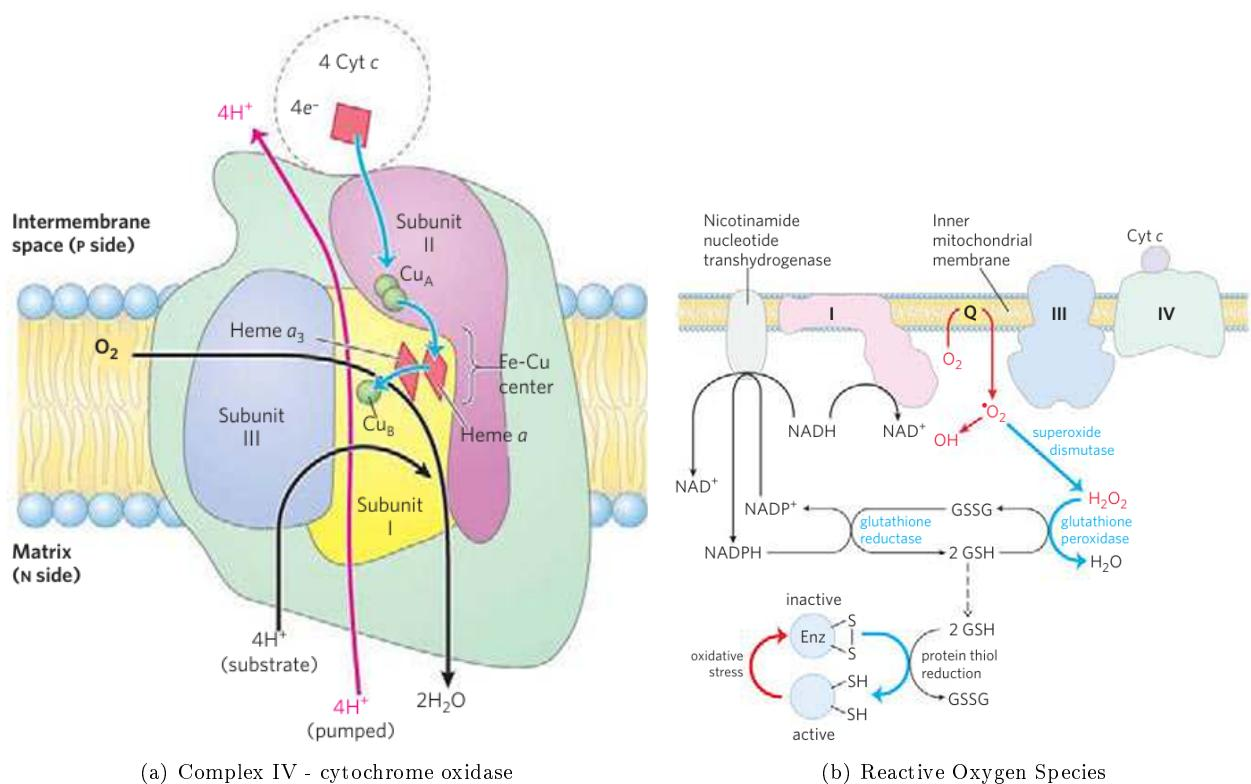

Figure 41: Complex IV and ROS
**Remark 1.23 (Reactive Oxygen Species (ROS)).** ROS are chemically reactive species containing oxygen. ROS are produced in a variety of biochemical reactions / organelles such as peroxisomes, **mitochondria**, etc. In the ETC about 0.1-2% of electrons are **prematurely transferred to oxygen**. Specific enzymes in our mitochondria are used to detoxify **superoxide radicals**, be converting them to **hydrogen peroxide** and then to **water**. See fig. 41(b)